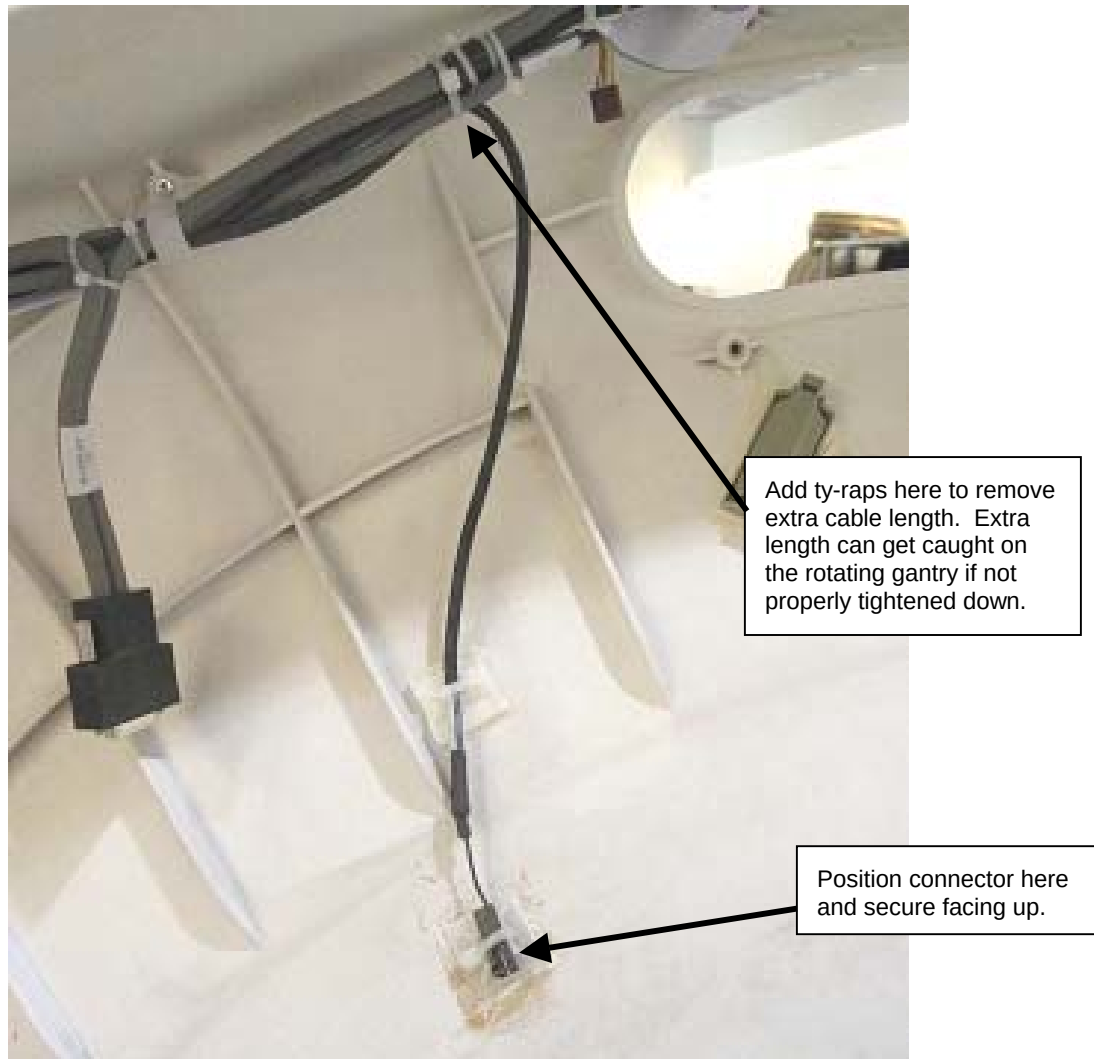

Figure 7 Front Cover Cable Ty-rap
8. Install the tilt pad harness. Add Ty-raps as shown in Figure 7 and trim excess ty-rap material.